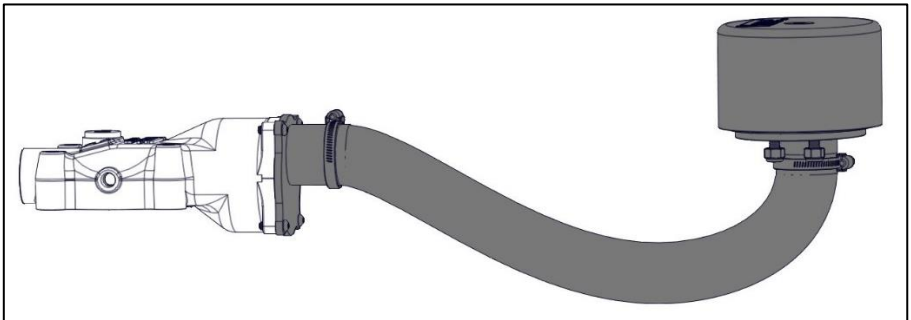

Figure 5 – Remote filter mounting
- The remote air filter hose must be installed with a “U” in it (similar to the trap in a sink) to prevent any accumulated oil from saturating the air filter (Figure 5).